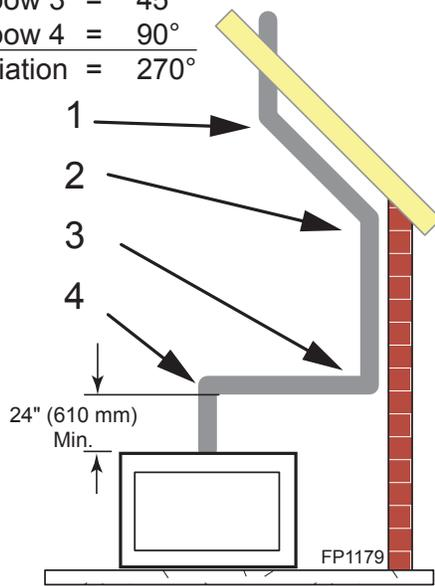

Figure 22 - Maximum Elbow Usage
- Two sets of 45°elbows offsets may be used within the vertical sections. From 0 to a maximum of 8' (2.5 m) of vent pipe can be used between elbows. Figure 22
- The maximum angular variation allowed in the system is 270°. Figure 22